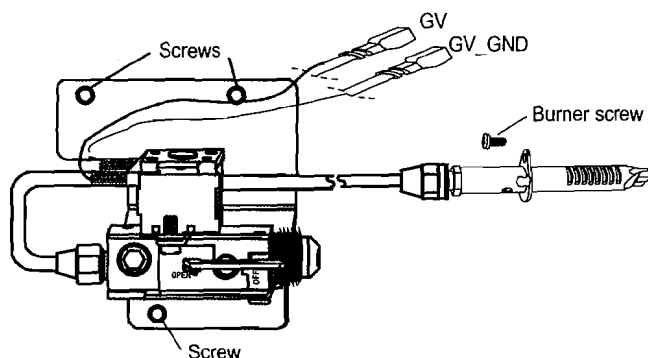

Figure 7. Gas valve/burner tube and burner assembly..
- Remove burner hold down screw. Loosen the 8-32 x 3/8 inch screw using a #2 Phillips screwdriver. See Figure 7.
- Remove the gas valve/bracket assembly. Loosen the brackets' three 8-32 x 1 inch screw using a 1/4 inch nut driver. See Figure 7.